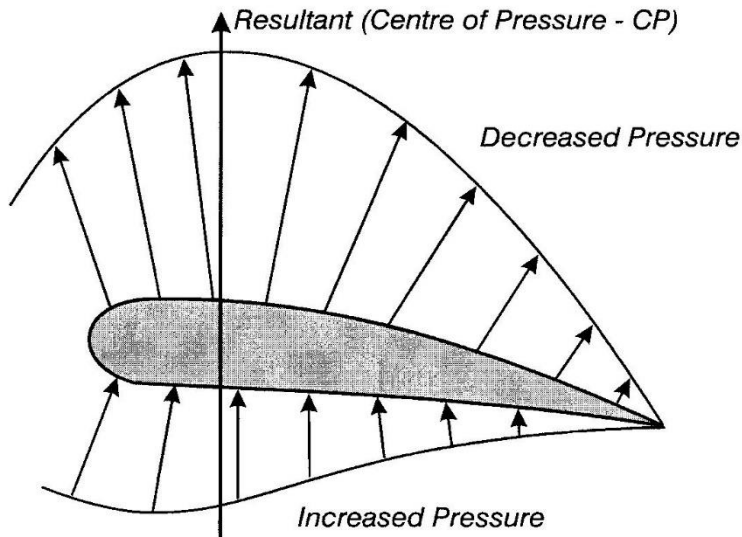

Figure 2-6: Pressure Distribution Around an Aerofoil
Figure 2-6 shows the pressure distribution around an aerofoil at an angle of attack of about 4 degrees. The following points should be noted:
Refer to Figure 2-6 again. If all the distributed pressures acting on the aerofoil were replaced by a single resultant force, the position on the chord at which this resultant force acts is called the centre of pressure (CP). Its location is a function of both camber and angle of attack.